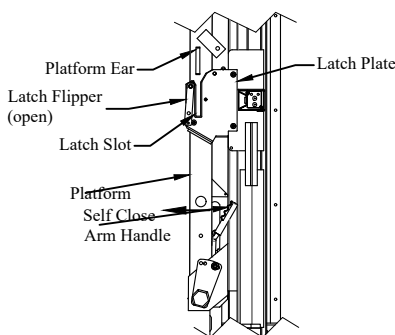

Figure 4: Step 7 & 8.
- Step 7. With one hand, push up on the control toggle switch to raise the platform ear out of the latch plate, while keeping the other hand clear (Figure 4).
- Step 8. When the platform ear is above the latch plate, rotate the platform away from the truck by pulling on the self close arm handle (Figure 4).